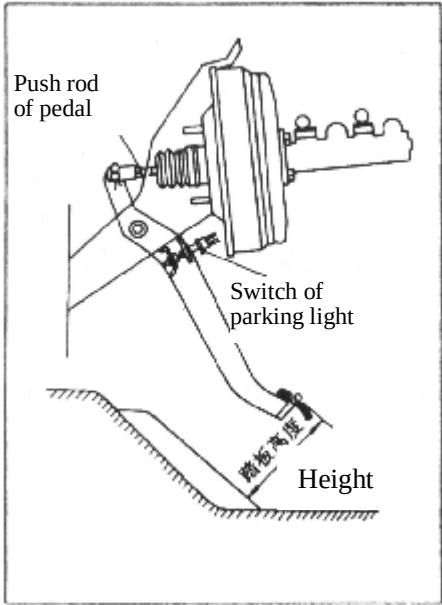

Figure 10-8-5 Check Brake Pedal Height
① Brake pedal height. The height from the floor should be 155~165mm. Adjust he height as indicated in figure 10-8-5.